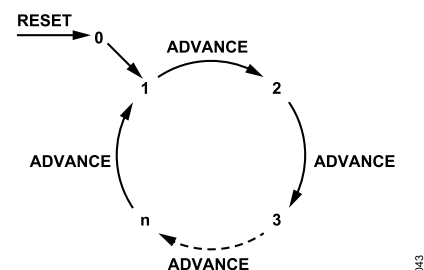

Figure 42. State Machine Position Loop
Figure 42 shows how the state machine pointer moves through a loop. In this diagram, n is the total number of states inside the loop. Because the sequencer depth bit field is 0 indexed, n is equal to one more than the value in the sequencer depth bit field.
- ▶ Bits 0 to Bit 3: MULT_STATES. These bits set the number of states in the loop (see Figure 42).
- ▶ Bit 0 to Bit 3: RX_STATES. These bits set the number of states in the loop (see Figure 42).